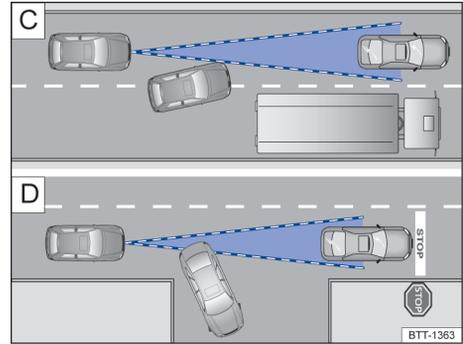

Fig. 109 **C** Changing lanes. **D** Vehicle turning or stopped.
For example, if a vehicle detected by the ACC turns or changes lanes, and if there is a parked vehicle in front, the ACC will not react to the parked vehicle → Fig. 109 [D].
- Vehicles changing to the same lane of the vehicle, at a close distance → Fig. 109 [C].